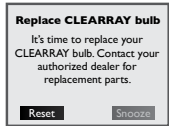

Figure 15.0c
18. CLEARRAY Replacement Reminder: This message will appear when the CLEARRAY bulb reminder time has expired (Figure 15.0c). The CLEARRAY bulb must be replaced.